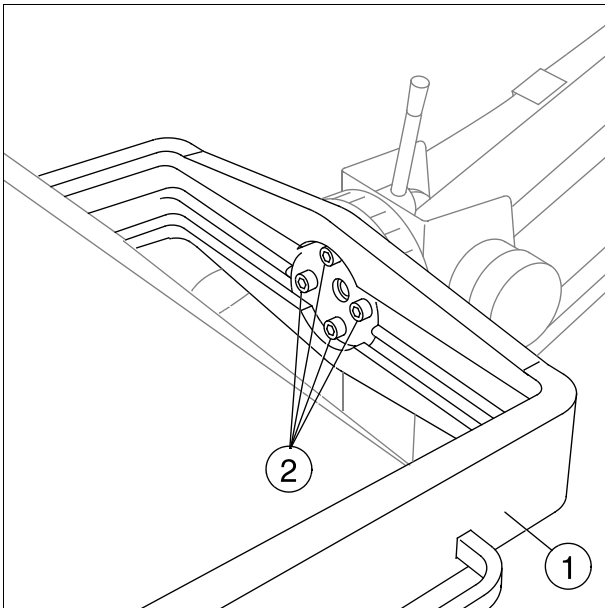

Fig. 2:
- The single tank support (1//Fig. 2 / p. 27) with the single tank must be seated securely on the flange of the support arm. Check the torque of the 4 screws (2//Fig. 2 / p. 27);